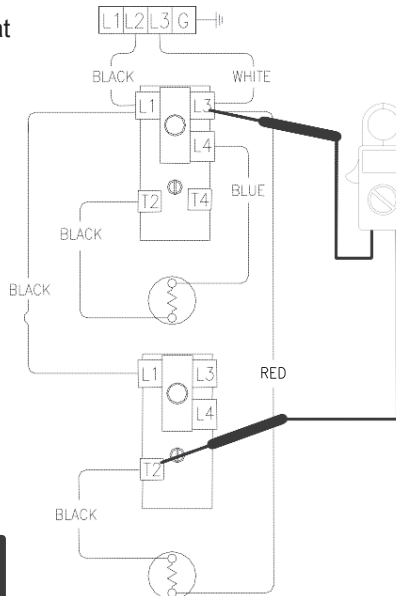

Figure 37
7. Check across terminal L3 of upper thermostat and T2 of lower thermostat (see Figure 37).